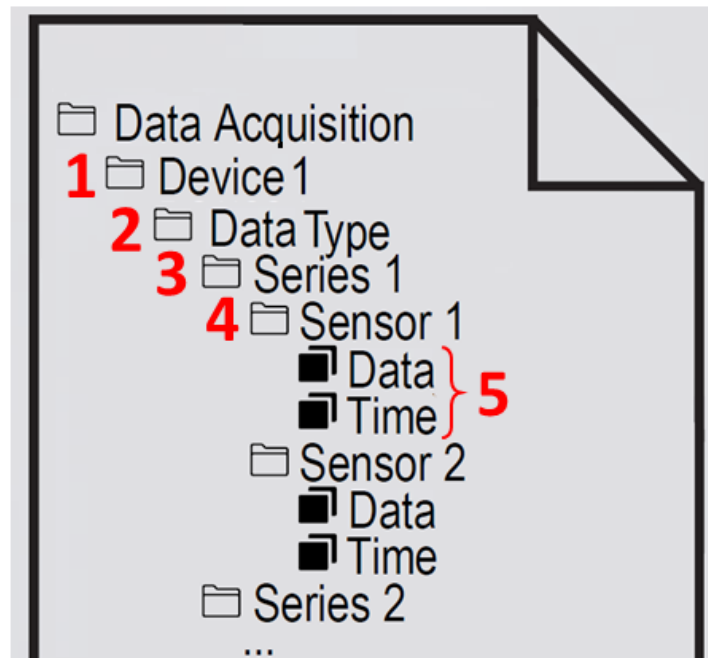

Figure 12.37: Schematic of the Structure of a .doric file
The **Data Acquisition** folder is the meat of the file structure, where the raw data is stored in **Datasets**. These **Datasets** are organized into nested groups based on the **Device**, **Data Type**, **Time Series**, and **Sensor / Channel Type** (Fig. 12.37). Each dataset within the **Sensor / Channel Type** folder will be named based on the **Sensor / Channel number** (e.g. AOUT01, DIO03, ROI 5, Keypress01, Sensor1, Cam342093402, etc.), unless the channels were re-labeled by the user before acquisition.
The following are the nested branches of the **Data Acquisition** folder (Fig. 12.37):
1. The **Device** folder (Fig. 12.37, 1) is the name of the equipment used to record the data, such as *FP/EP Console*, *BFPD* or *Behaviour Camera* to name a few. When multiple **Devices** are used during a recording, each will have a separate folder (Fig. 12.24a).
2. The **Data Type** folder (Fig. 12.37, 2) is named based on the kind of data that the **Device** recorded:
3. The **Series 0001** folder (Fig. 12.37, 3) is contained within a **Data Type** folder. By default, even if **Time Series** is not enabled, the entire recording is stored within **Series 0001** (of one). When **Time Series** is enabled, multiple **Series #** folders will be created one after another, for each **Data Type** and **Device** folders (Fig. 12.39). The structure within each repeated **Series** will be identical (i.e. Series0001, 0002, 0003...) when inside the same **Data Type** folder, but not between them. E.g. *Keypress Event* series and *Signal* series structure will be different (Fig. 12.40).
4. The **Channel / Sensor** folders (Fig. 12.37, 4) are the next set of branches within the **Series 0001** folder. If multiple **Channel / Sensor Types** are used, each will have its own branch, whose name will be the **Channel / Sensor Type** (e.g. AnalogIn, DigitalOut, Antenna1, KeypressEvent1, etc; Fig. 12.38a, 4) or user-specified names (Fig. 12.38d, 4).
5. The **Dataset** branches (Fig. 12.37, 5) are identified by their document button and contain the raw data. Every **Channel / Sensor** folder will at least have a *Signal / Value Dataset* (Fig. 12.40) and often a *Time Dataset* too (Figs. 12.40a, 12.40b & 12.40d, but not 12.40c). The **Dataset** names are commonly the name of the channel/sensor itself + an index value (if there are multiple channels), such as Fig. 12.40b. However, if the user specified a name for the **Channel / Sensor** within the software, that name is used instead. The raw data is stored within the **General Info** tab, under the **Dataset** box (Section 12.5.1), while the attributes related to the **Datasets** are located within the **Attributes** tab (Section 12.5.3).